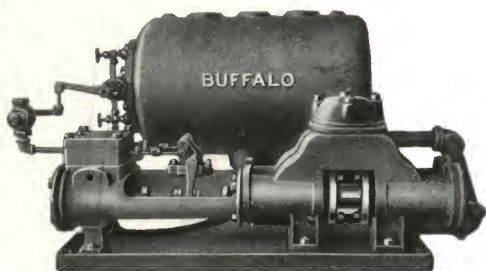

Fig. 714
**With outside center-packed pumps. Fig. 714**